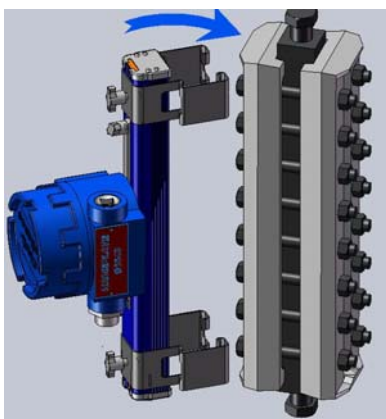
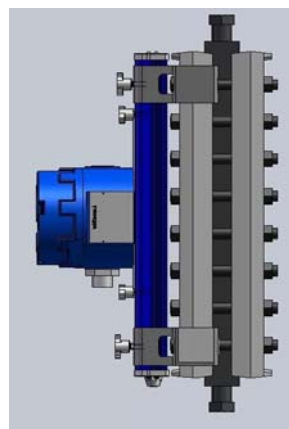

Figure 11
Figure 12
- 2) Align one side of the brackets as shown in Figure 11, so the clip of the brackets are gripping around the side of the gauge. Roll the entire assembly over until it is flush with the rear flat of the gauge and press until the bracket clips have locked into place as shown in Figure 12.